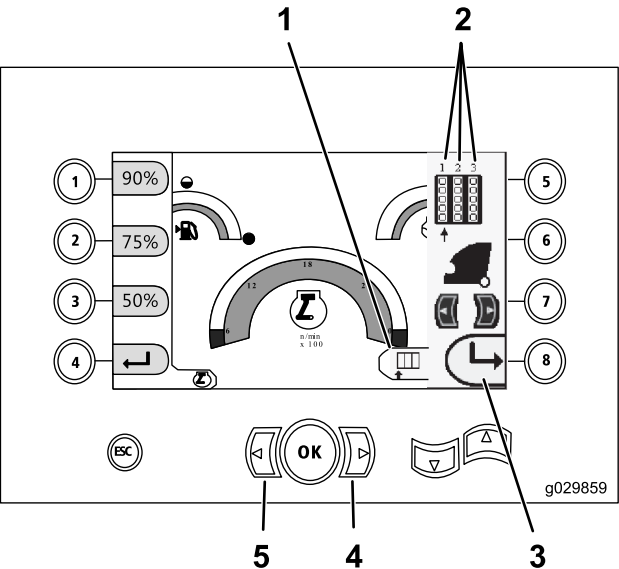

Figure 25
Note: The icon for button 8 is only for software versions K and up (Figure 25).
- 1. Press the right or left arrow to select the row number to the row you want to access (Figure 25).
- 2. After placing the arrow beneath the row number you want to access, press the 8 button (Figure 25) to hide the side window.